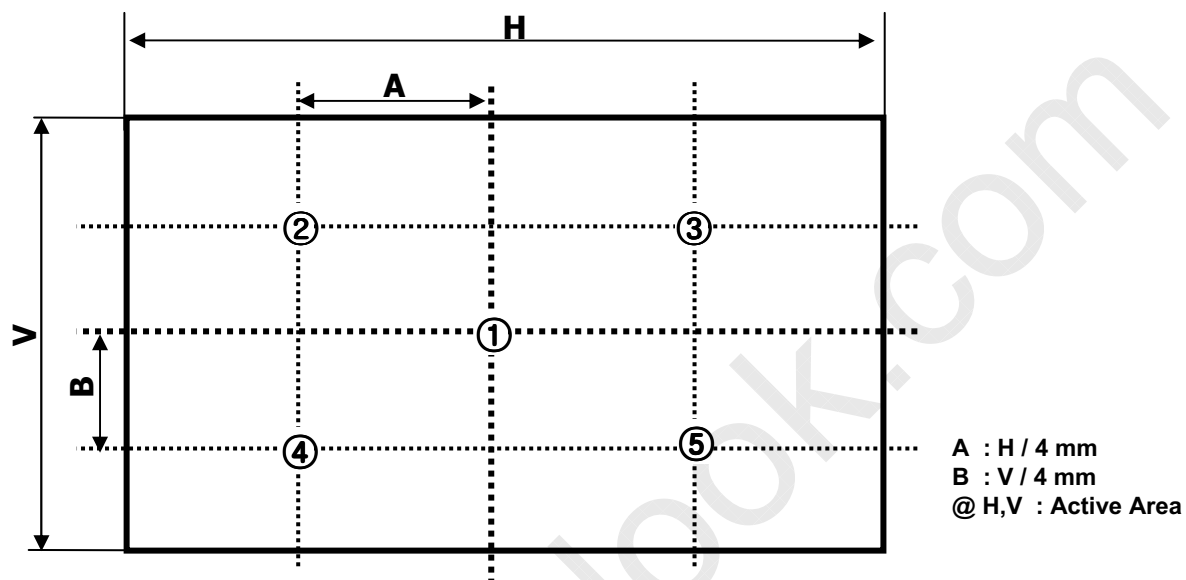

FIG. 2 Measure Point for Luminance
n = the Position number(1, 2, 3, 4, 5). For more information, see FIG 2.
2. Surface luminance are determined after the unit has been 'ON' and 30min after lighting the backlight in a dark environment at $25 \pm 2^\circ\text{C}$. Surface luminance is the luminance value at center 1-point across the LCD surface 50cm from the surface with all pixels displaying white. For more information see the FIG. 2.
For more information, see FIG 2.